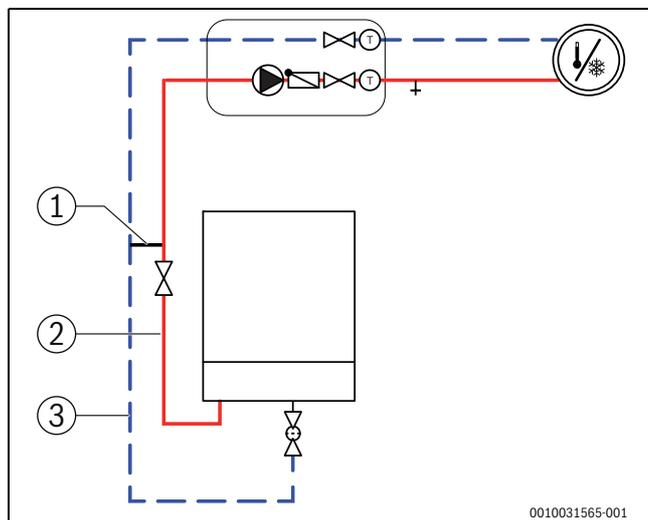

Fig. 8 Indoor unit with heating circuit and bypass
- ▶ Install the bypass [1] between the flow [2] and return [3] (→ Fig. 8) to hydraulically uncouple the heating pump from the heating circuit. Observe the prescribed dimensions and clearances during assembly (→ Tab. 3).